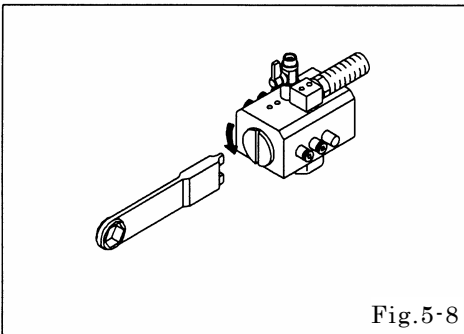

Fig.5-8
- Use the dedicated tool ⑤(Cap remover) to remove cap from valve body assembly. [Fig.5-8]